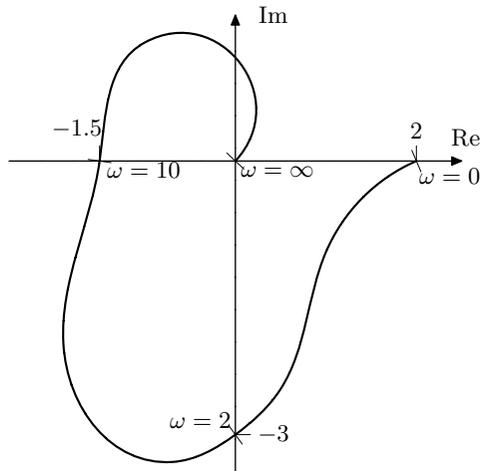
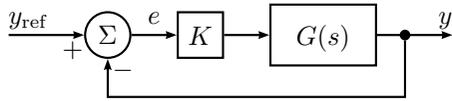

Figure 3.16a
Figure 3.16b
- 3.16 The system  $G(s)$  is asymptotically stable and has the Nyquist curve in Figure 3.16a. It is controlled using feedback according to Figure 3.16b.